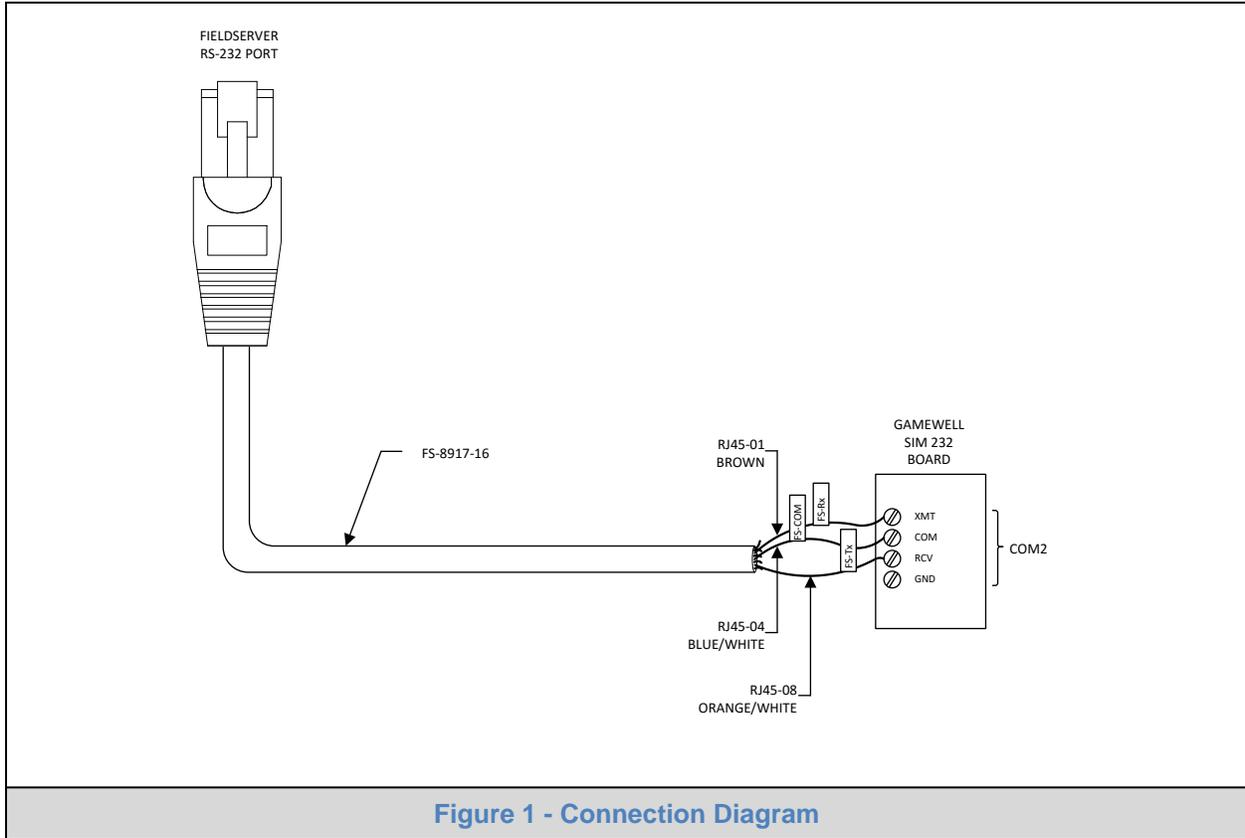

Figure 1 - Connection Diagram
- Figure 1 - Connection Diagram 5